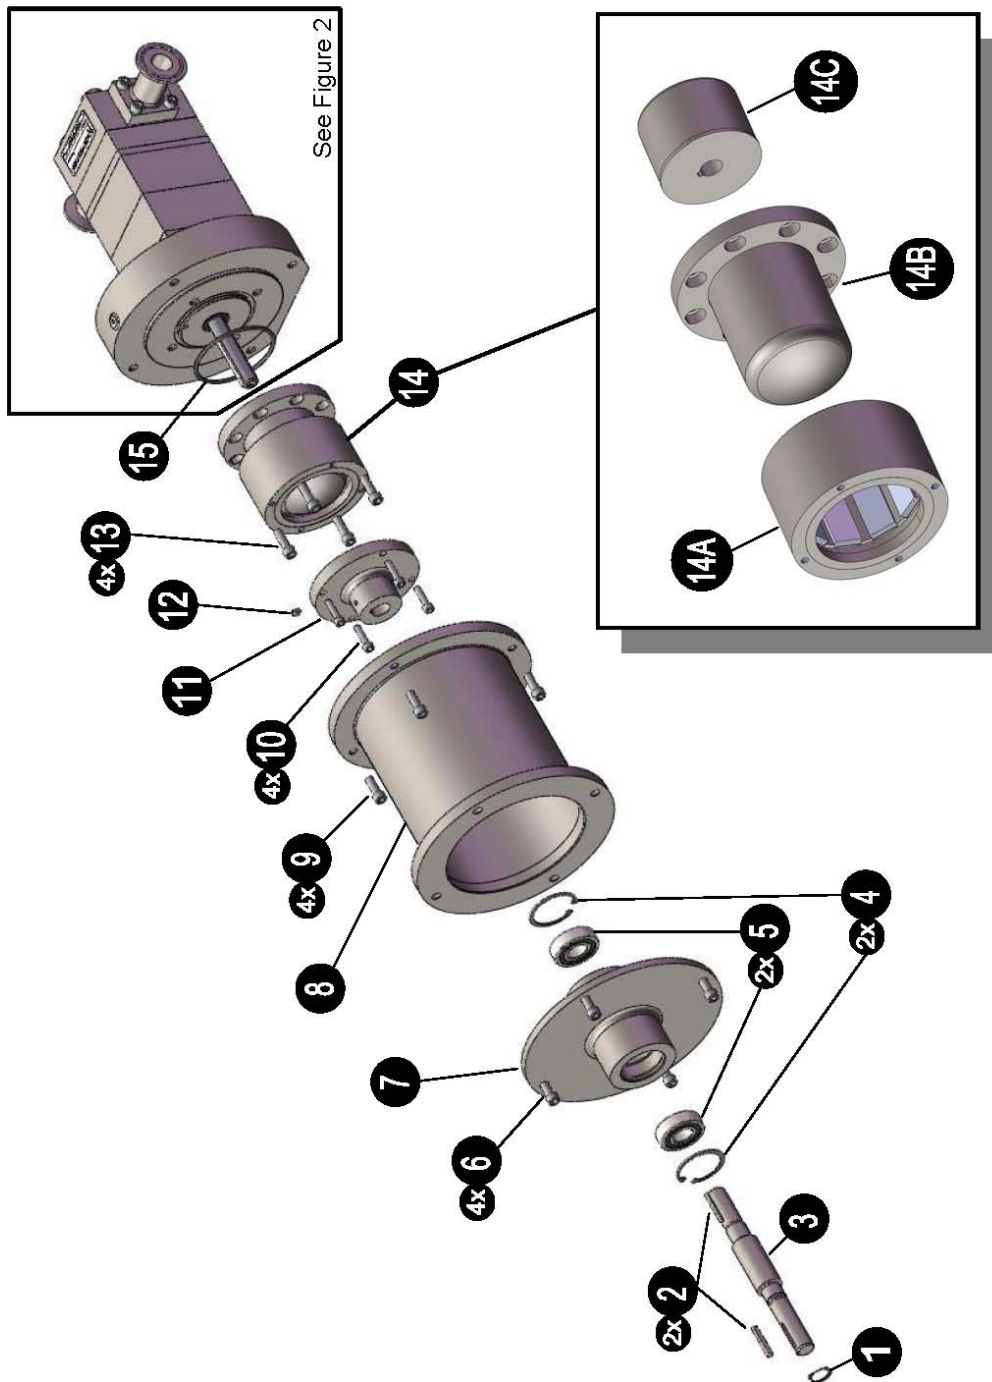

Figure 3
1. Install the drive shaft end key (2), Figure 3, into the input shaft (3) keyway.